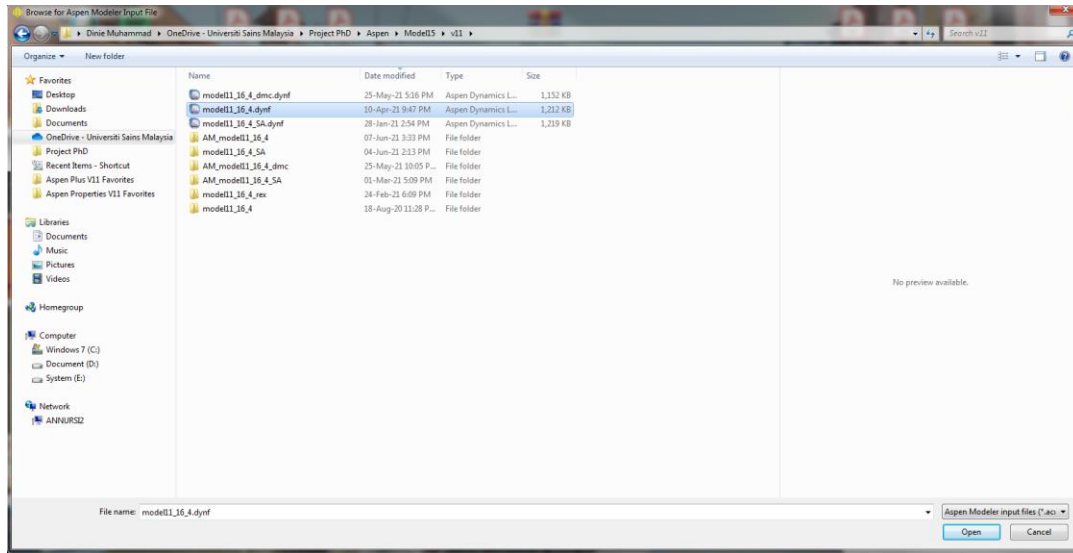

Figure 2
4. After copying the file, double click the block. A menu for Aspen Modeler Input file will popup and browse for the targeted Aspen Dynamic file (refer Figure 2). Select the Aspen Dynamic model file and click open. Here, I am using the Aspen Dynamics model from my research work [1].